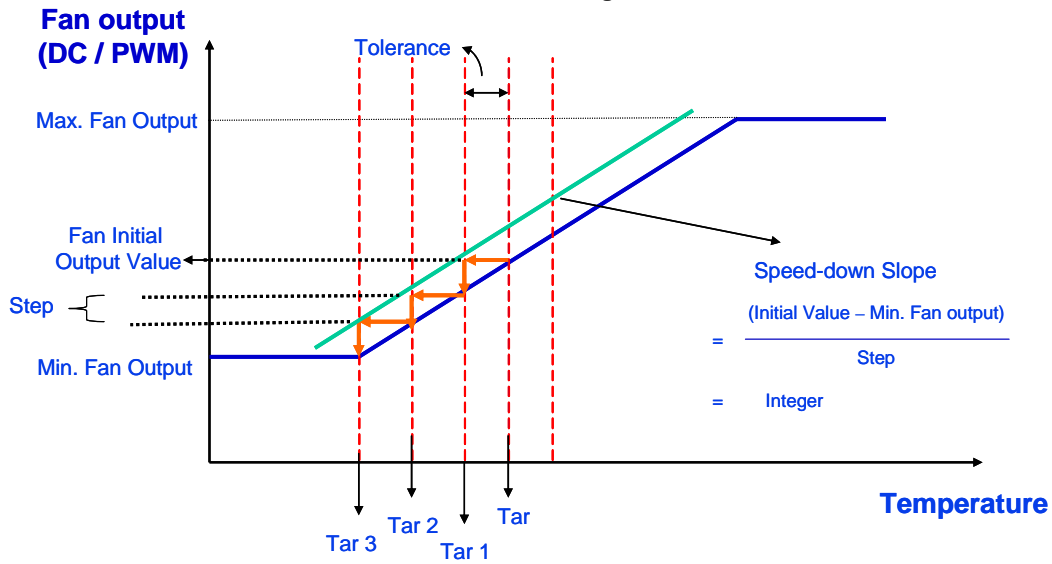

Figure 6.11
- (7) In the case that currently measured temperature goes below (Target Temperature - Temperature Tolerance), which is shown in Figure 6.11, fan speed slows down by one step. "Step" here refers to the value in the CPUFANOUT Output Value Select Register, Bank0 Index03h or Index61h.
- (8) Meanwhile, original Target Temperature dynamically shifts to (Target Temperature - Temperature Tolerance), and new Target Temperature, named Target Temperature 1, is formed. In other words, Target Temperature 1 equals original Target Temperature minus Temperature Tolerance.
- (9) If the currently measured temperature is within the (Target Temperature 1 \pm Temperature Tolerance) then, the fan speed remains constant. Otherwise, fan speed slows down by one step again. Target Temperature then dynamically shifts to (Target Temperature 1 - Temperature Tolerance), and new Target Temperature again, named Target Temperature 2, is formed.
- (10) The fan-slow-down and Target Temperature comparison-then-shift process continue until currently measured temperature locates within (Target Temperature X \pm Temperature Tolerance), or fan output speed hits its minimum speed.
- (11) **Please be noted that "Speed-down Slope" shown in the Figure 6.11 must be an integer.** In other words, $\frac{InitialOutput - Min.FanOutput}{Step}$ must be an integer; otherwise, it may lead to register overflow.
- (12) In the case that the temperature is always lower than (Target Temperature X - Temperature Tolerance), and, for some reason, the fan speed would like to be kept at the minimum speed, Stop Value, instead of being stopped, set register Bank0 12h.bit 4. Set bit 4 to 1, fan speed will always keep at the value set in Bank0 Index09h when temperature is always below (Target Temperature X - Temperature Tolerance). Set bit 4 to 0, fan speed will decrease to 0 after a time period set in Bank0 Index0Dh.